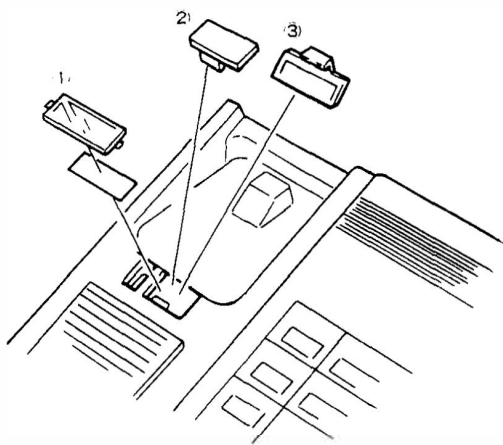

Figure 200-59 Wall Mounting Preparation
2. Remove the hanger by sliding it out and remount it back in the original position upside down (with the projected side faced upward.) Refer to Figure 200-59 Wall Mounting Preparation.